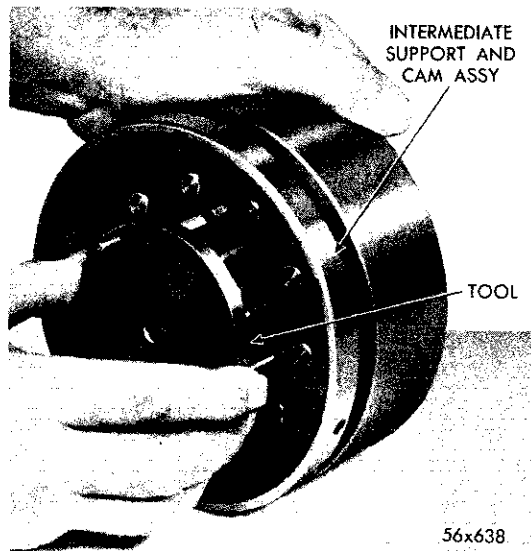
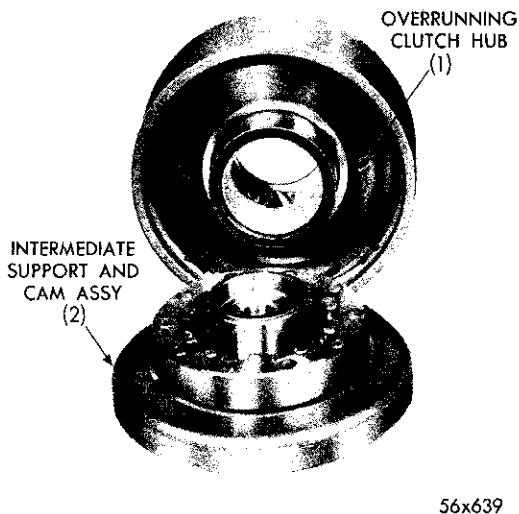

Fig. 107—Installation of Tool X-3427 in Intermediate Support and Cam Assembly
Fig. 108—Removal and Installation of Intermediate Support and Cam Assembly from Overrunning Clutch Hub
Install fixture, Tool C-3527, in intermediate support and cam assembly, as shown in Figure 107. Remove intermediate support and cam assembly from overrunning clutch hub (Fig. 108). Using a screw driver, remove snap ring (D) from low and reverse band drum assembly